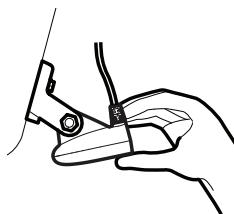
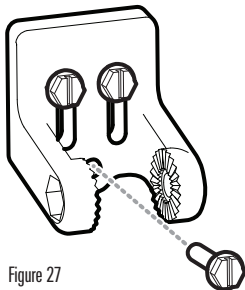

Figure 21
Figure 27
5. Adjust the initial angle of the transducer from back to front by rotating the transducer until the side seam on the transducer is almost parallel with the bottom of the boat, one click at a time in either direction (Figure 21 and 22).
8. Re-position the transducer bracket against the transom of the boat, then hand-install all three screws. Make sure that the transducer location has not changed, then fully tighten all three mounting screws (Figure 27). **Hand tighten only!** Re-install the transducer to the mounting bracket, making sure to assemble the ratchets in the same location they had before. (See Figures 18a - 18d and Figure 21 - 22). If you have performed the preceding procedures correctly, the transducer should be level and at the right height for optimal operation.